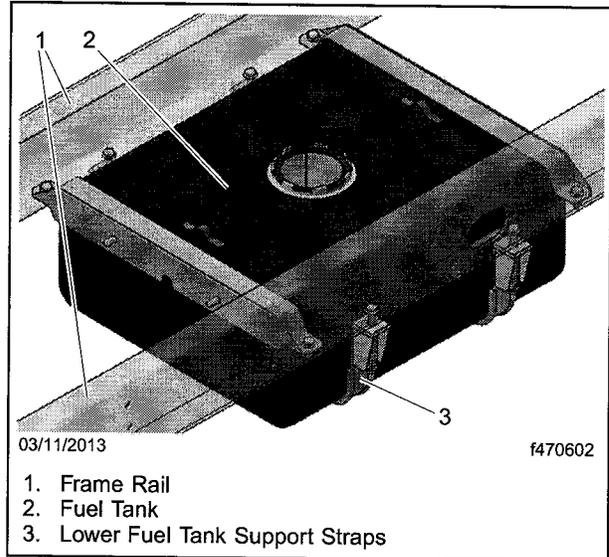

Fig. 3, Lower Fuel Tank Support Straps
18. Using the fuel tank support straps and new fasteners, attach the new fuel tank assembly to the chassis. See **Fig. 3**. Using a distance from the base of the washer under the spring to the top of the bracket, tighten the nuts 111 ± 3 mm; do not collapse the isolator springs.